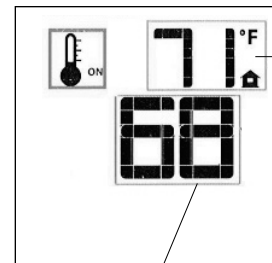

Figure 48. Thermostat ON
- To activate this function, press the Thermostat Key, (Fig. 40.) The display will indicate that the room thermostat is "ON" and the current Set Temperature is now displayed. Fig. 48.